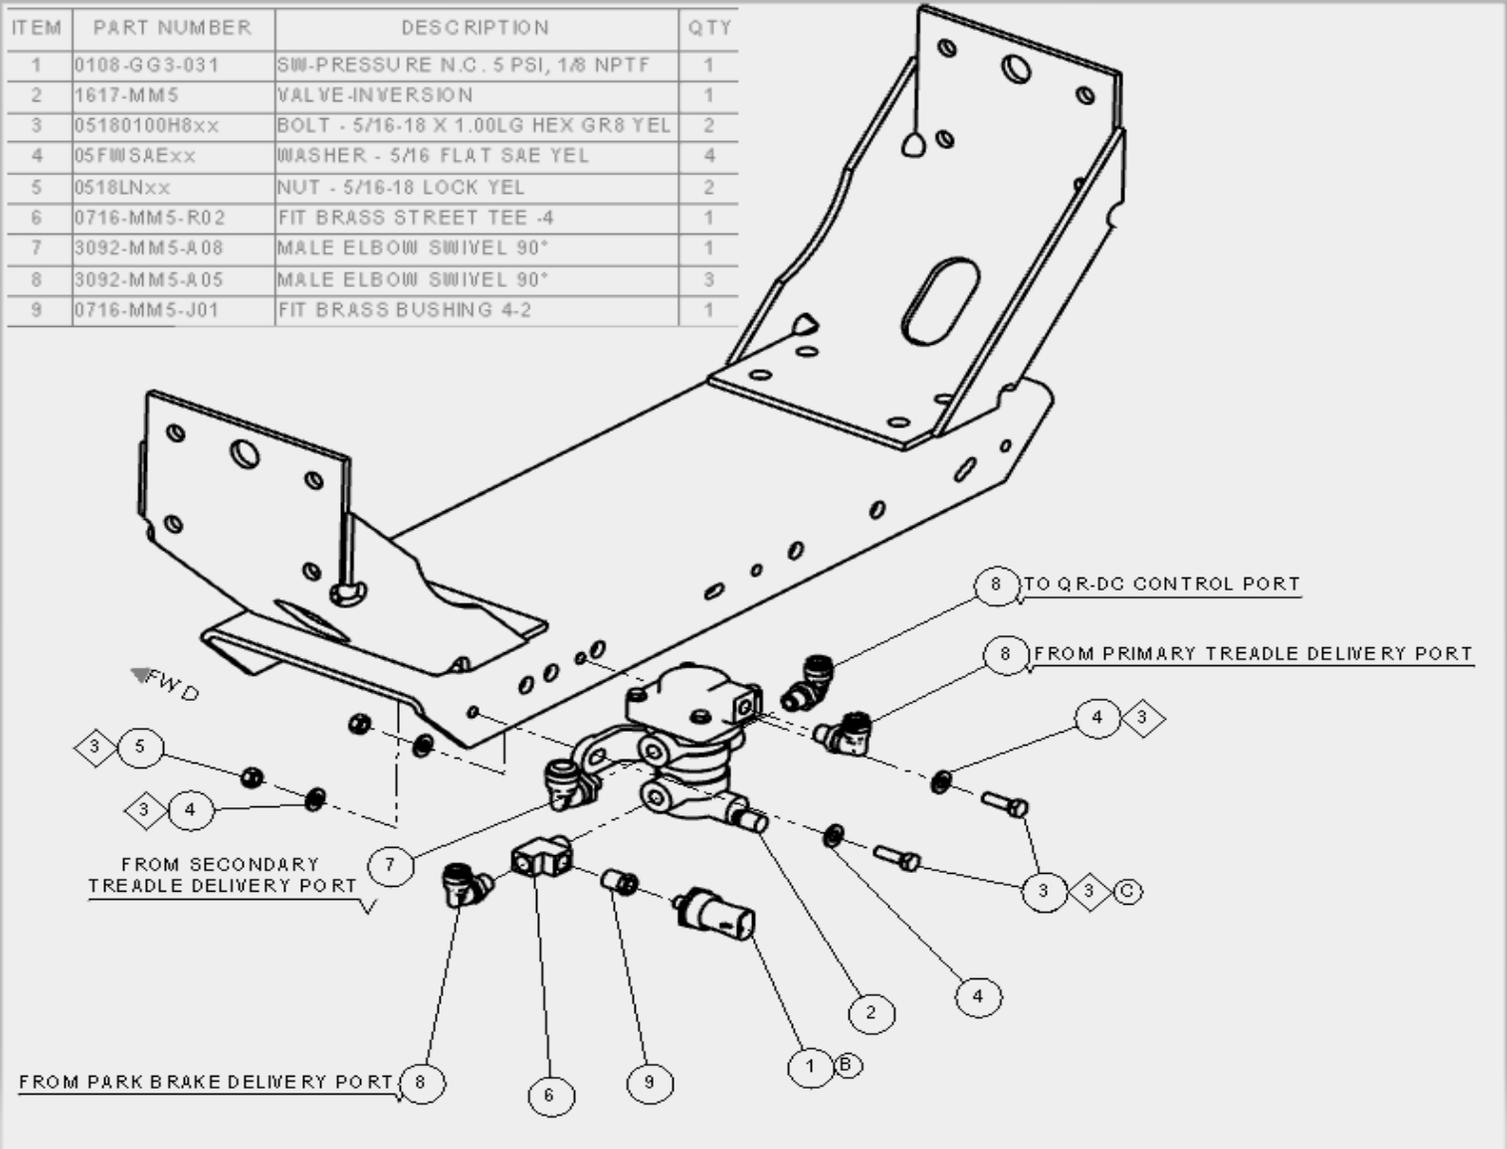

Figure 5.1
- 10) Reconnect air lines in their respective locations. (See Figure 5.1 and 6.1)